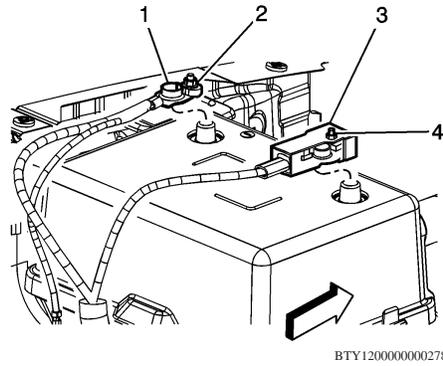

Fig. 1 Battery removal
4. Disconnect ground cable (1) from battery, **Fig. 1**.
5. Remove positive terminal cover (2), **Fig. 1**.
6. Loosen nut (3) and detach positive cable (4) from battery, **Fig. 1**.
7. Disconnect vent hose (5), **Fig. 1**.
8. Remove bolt (6) and remove bracket (7), **Fig. 1**.
9. Loosen retaining strap (8), and remove battery (G1) from trunk, **Fig. 1**.
1. Install battery, and tighten retaining strap (8), **Fig. 1**.
2. Install bracket (7), and tighten retaining bolt (6), **Fig. 1**.
3. Connect vent hose (5), **Fig. 1**.
4. Attach positive cable (4), and tighten nut (3), **Fig. 1**.
5. Install positive terminal cover (2), **Fig. 1**.
6. Connect ground cable (1) to battery, **Fig. 1**.